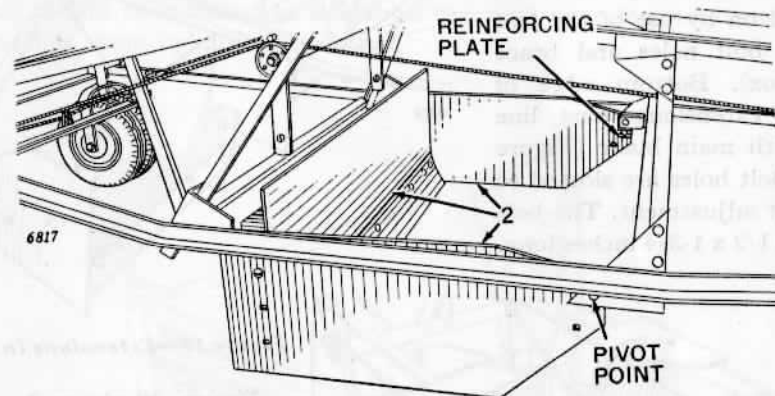

Figure 17—Shaping Blade and Wings Installed
2. Place shaping blade (Bundle AC3104Y) in place (Figure 17). Now by use of two upper bolt holes, attach the two side wing plates (Bundle AC3106Y) to shaping blade. **NOTE:** Reinforcing plate at front pivot point of wings should be facing inward. Install the forward pivot pins (at arrow) in the center hole if your tractor drawbar is average height; in a lower hole if it is low, and in the upper one if it has a high drawbar. The lower edge of the wing should be approximately parallel to the ground when Landshaper is hitched to tractor and the blade in bottom position.